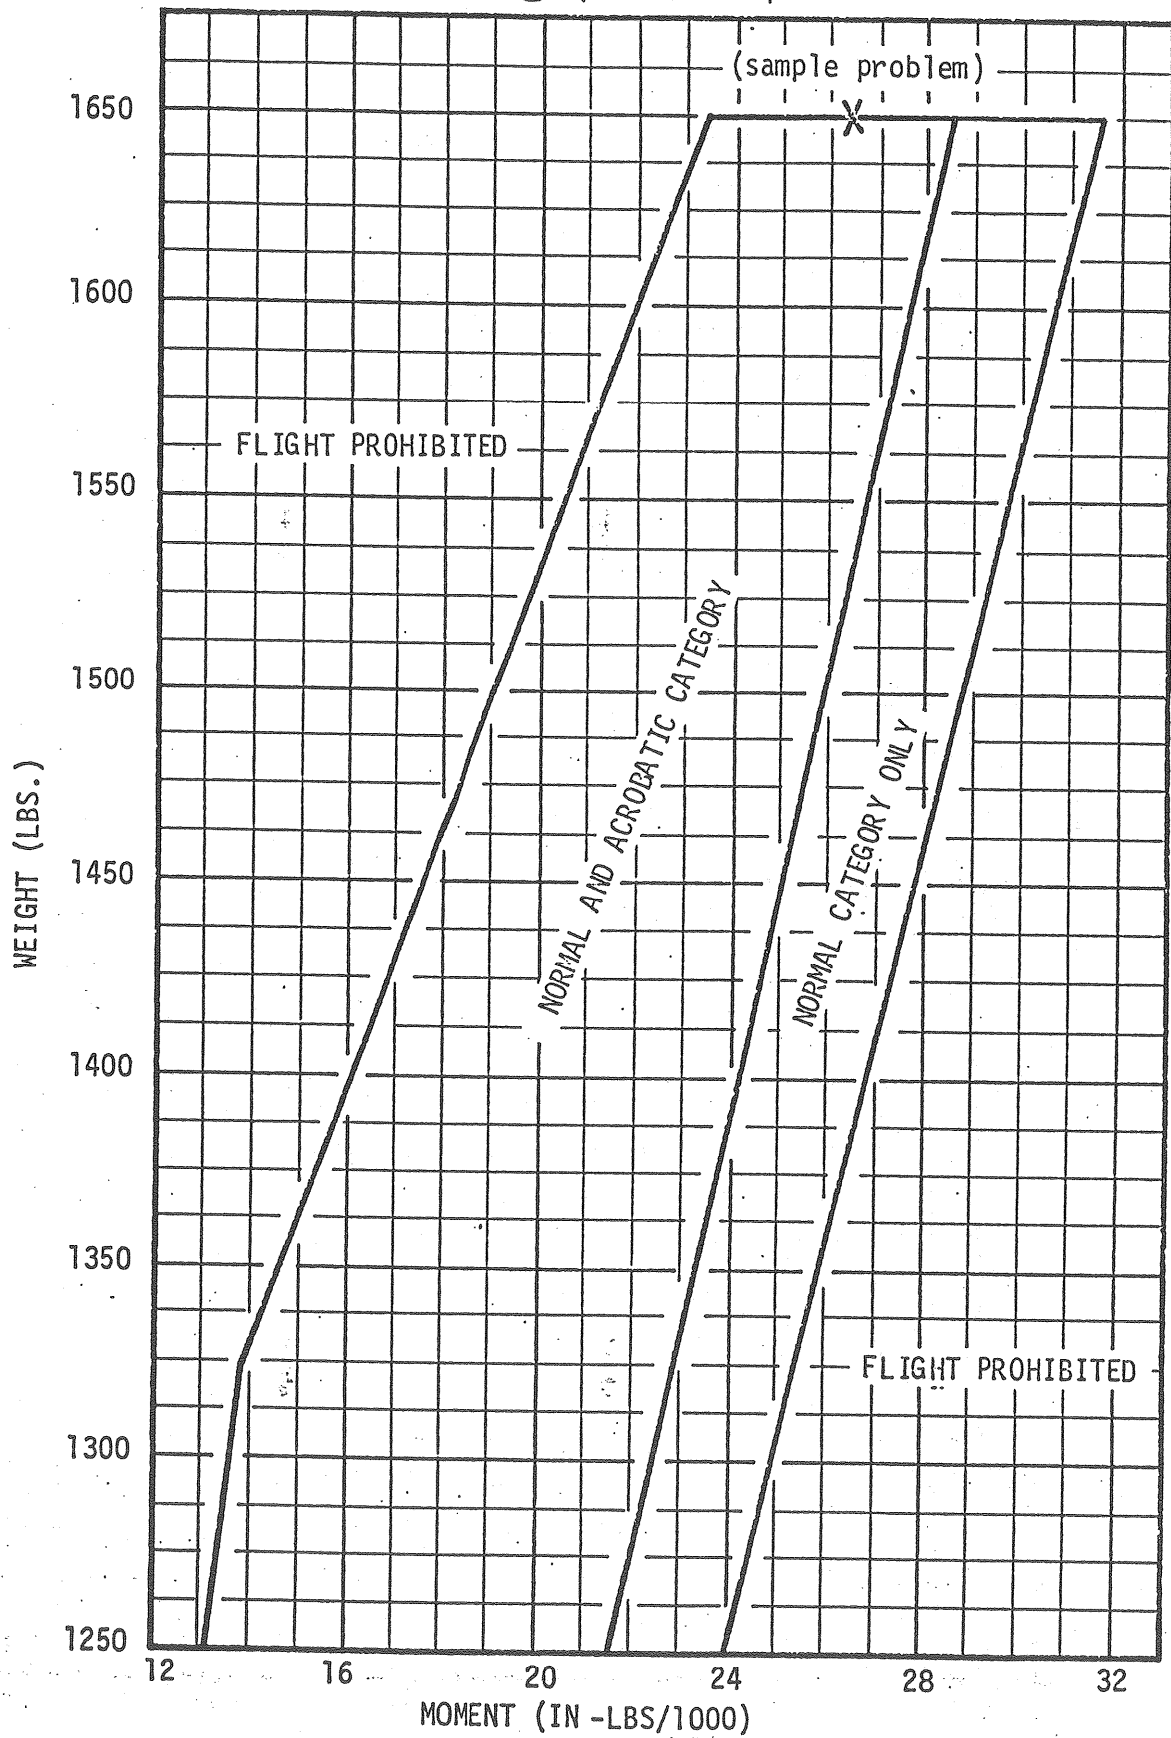

FIGURE 5-3 FLIGHT ENVELOPE - 7ECA ONLY
5. Using the Flight Envelope, Figures 5-3, 5-4, 5-5 for the model Citabria used, determine that the gross take-off weight and moment are within limits.